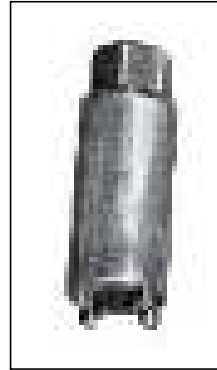

Fig. 1.11A
5. Clutch nut tightening tool - N231 002 0 (Fig.1.11A)